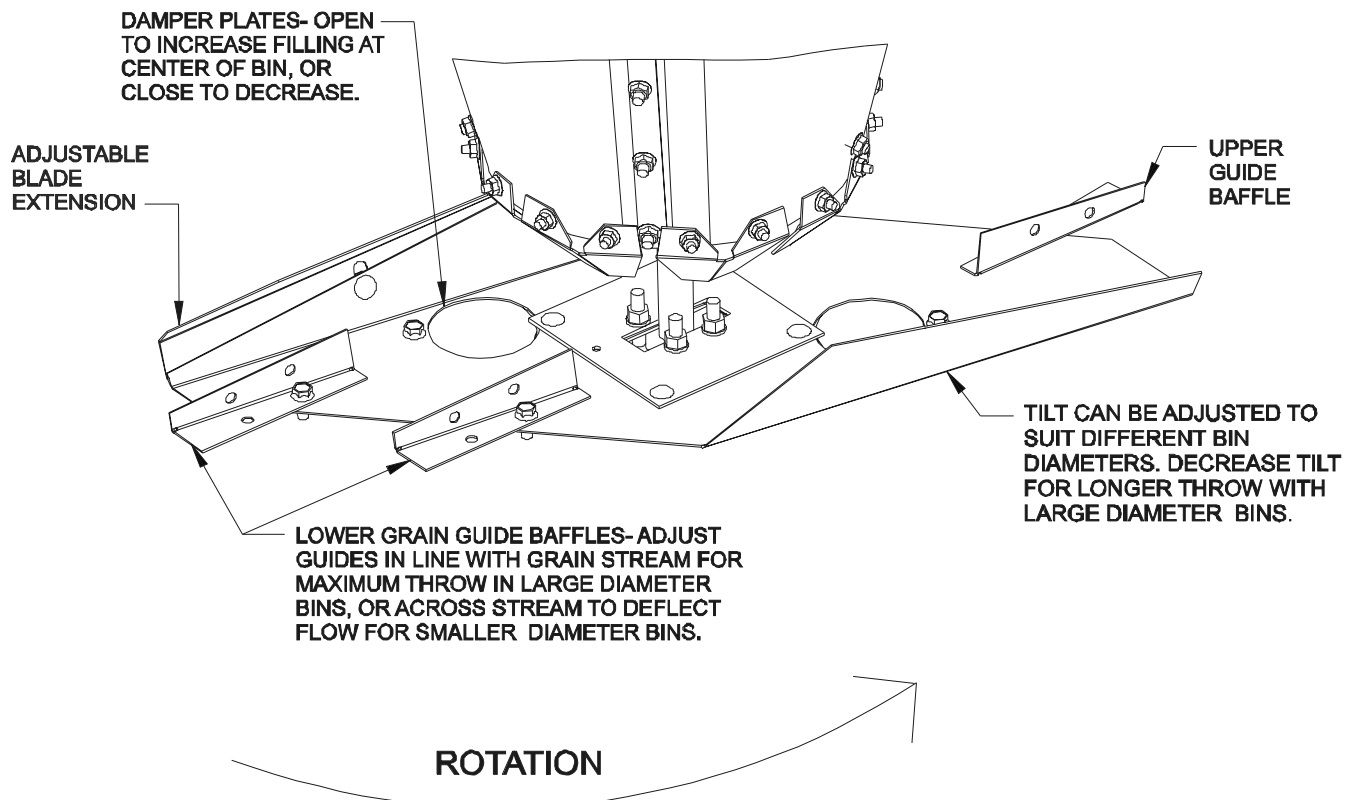

Figure 5: Four features for adjusting the grain flow pattern.
2. Spreader diverters are used to increase or decrease grain flow resistance over spreader blade. With the diverters straight (Figure 5) the grain will travel fur-